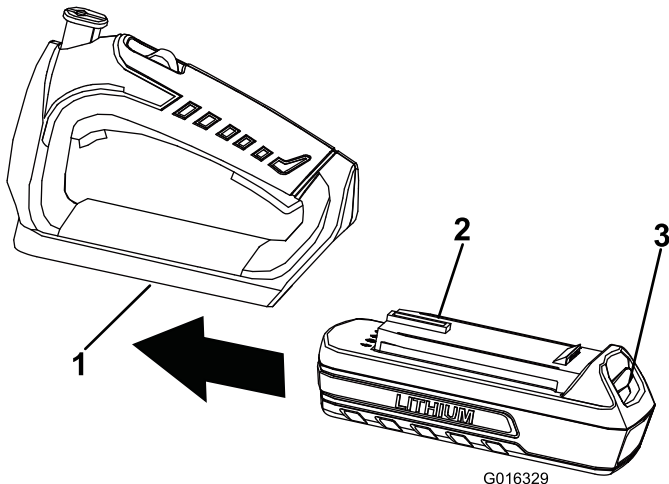

Figure 3
- Align the tongue of the battery pack with the cavity in the handle housing (Figure 3).